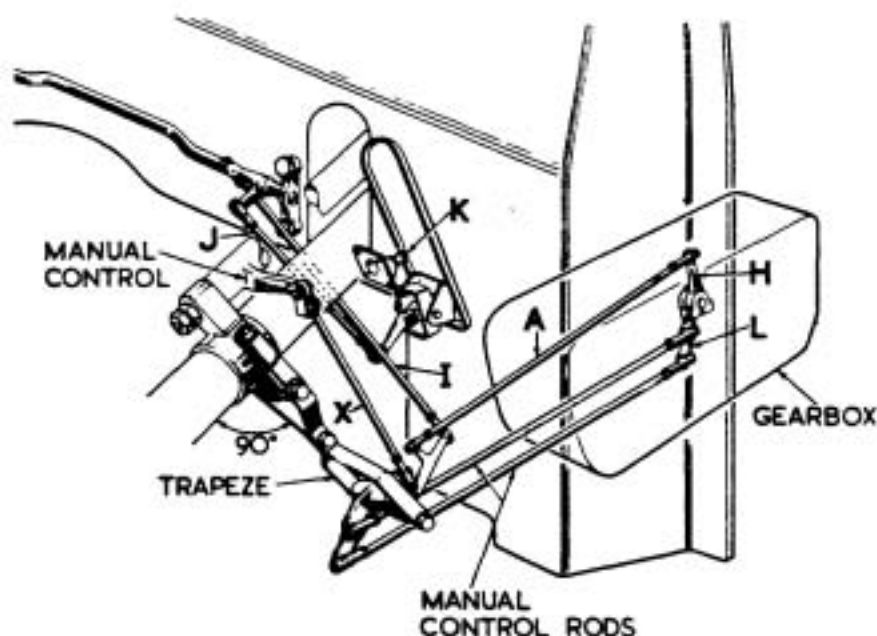

FIG. 2. GEARBOX OPERATING RODS.
6. Disconnect accelerator operating rod (J) (Fig. 2) at top end. Unhook return spring from accelerator pedal lever and floorboard.
9. Disconnect the two horizontal manual control rods (see Fig. 2) from the ball joints on the lower gearbox lever (L).
10. Disconnect the horizontal throttle-valve rod (A) from the ball joint on the upper gearbox lever (H). Slacken pinch-bolts and remove levers (H) and (L) from shaft.